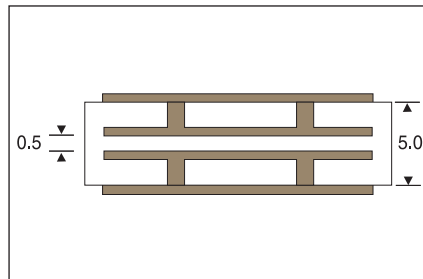
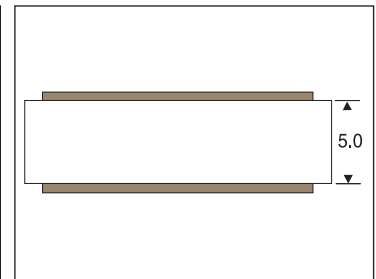

Fig. 1. Construction of Buried Electrodes
Fig. 2. Conventional Single Layer Capacitor
- Presidio's patented thick film technology buries electrodes into the ceramic body (Fig. 1) allowing a 10:1 advantage over a conventional construction (Fig. 2). It offers the designer: (a) more bandwidth through increased device capacitance, (b) more stable capacitance over temperature and (c) more capacitance in smaller case sizes for increased board density.